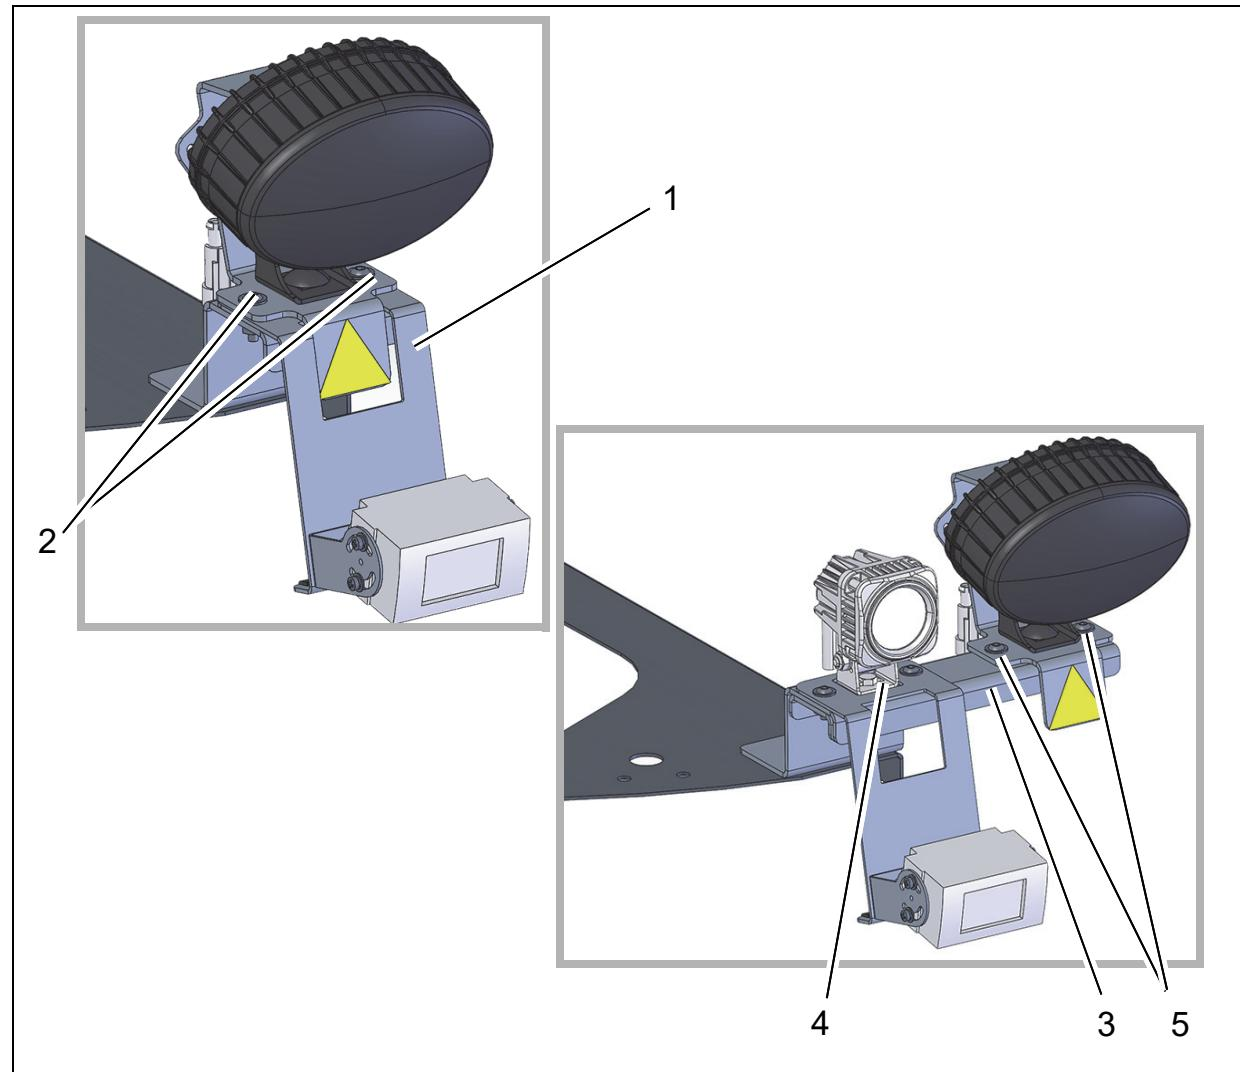

Fig. 5
Position the holder with the reversing camera on the options holder (Fig. 5/1), position the BlueSpot on top and attach them together using two M6x16 flanged button head bolts (Fig. 5/2).
1. Slide the options bridge (Fig. 5/3) underneath the options holder, position the holder with the reversing camera on top and attach them together using two M6x16 flanged button head bolts.
2. Attach the working light above the reversing camera using the standard parts (Fig. 5/4).
3. Attach the BlueSpot to the options bridge using two M6x16 flanged button head bolts (Fig. 5/5).